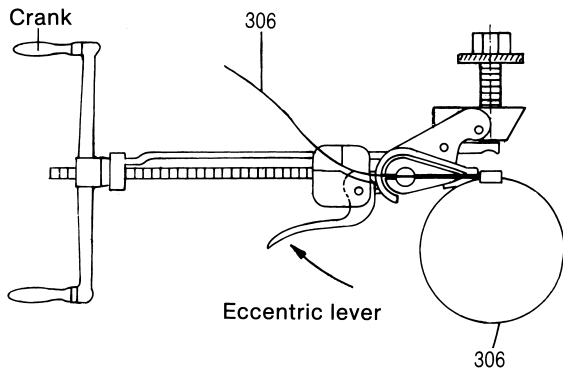

Figure 9: Clamping the joint clamp by means of clamping tool Band-It and adapter J050.
- Introduce band end of the joint clamp (306) to the joint clamp lock into the clamping tool with adapter.
- Hold clamp end with the eccentric lever of the clamping tool, and clamp joint clamp (306) by turning the crank (Figure 9).